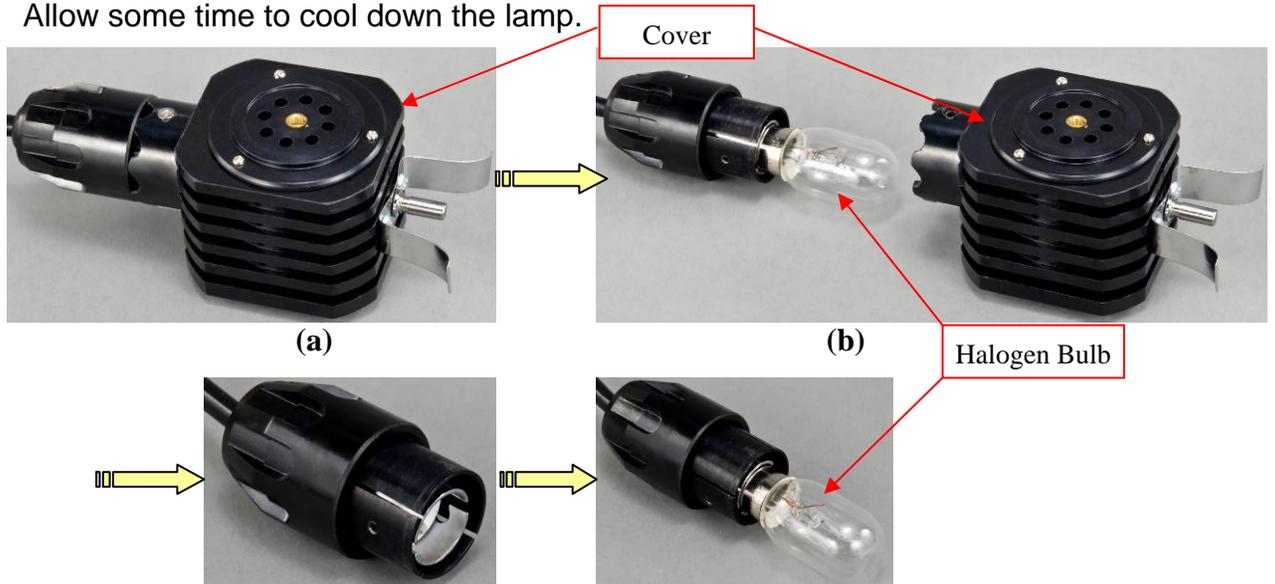

Fig. 4
- 4) Turn over the illumination and loosen the screw (**Fig. 4 (a)**).
- 5) Open the cover of the illumination (**Fig. 4 (b)**).
- 6) Take out the dead halogen bulb (**Fig. 4 (c)**).
- 7) Insert the new halogen bulb (**Fig. 4 (d)**).